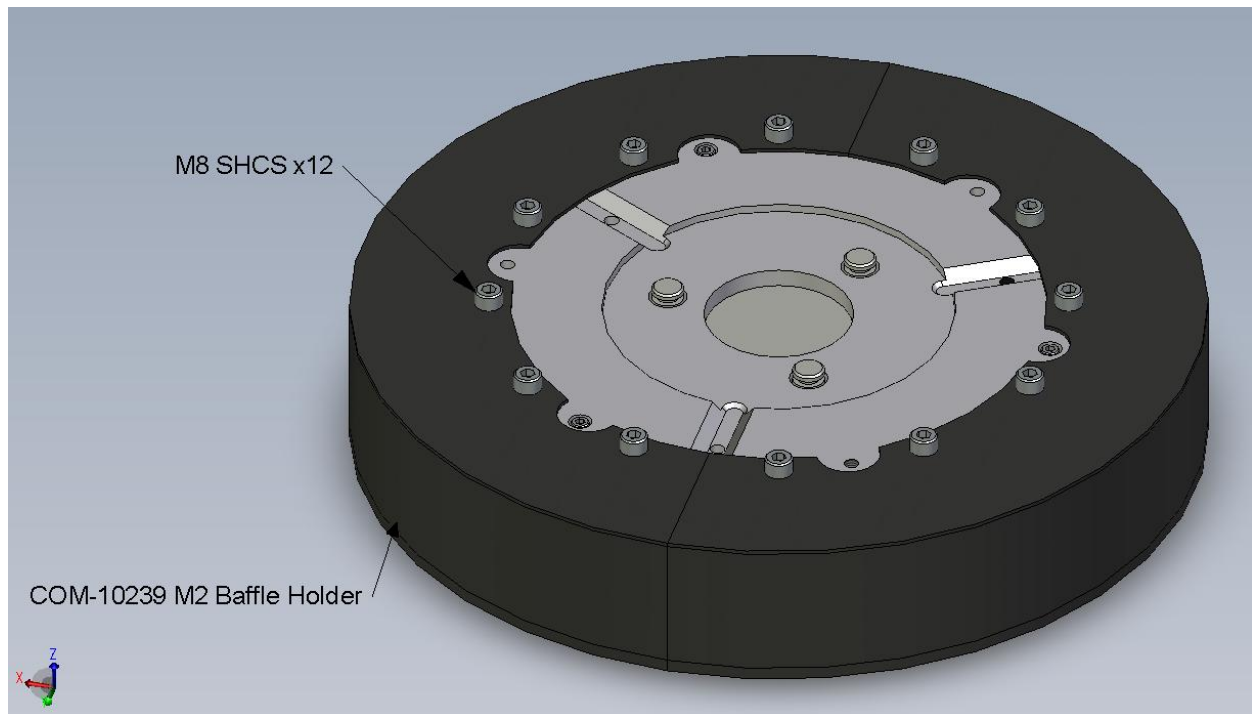

Figure 3 M2 Assembly with Baffle Holder
7. Remove the six M8 SHCS securing each half of the M2 Baffle Holder (COM-10239) to the M2 Attachment Plate (COM-5188) and carefully remove the baffle holder, see Figure 3.